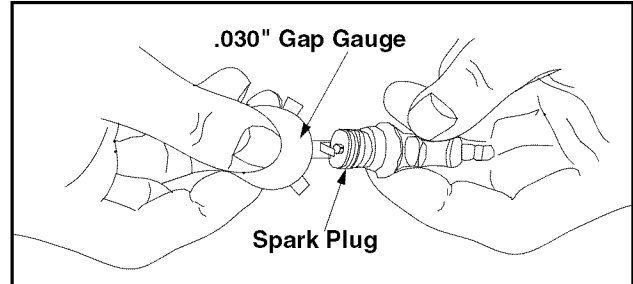

Figure 15
- Clean the spark plug and reset the gap to .030" at least once a season or every 50 hours of operation. See Figure 15. Spark plug replacement is recommended at the start of each season. Refer to engine parts list for correct spark plug type.